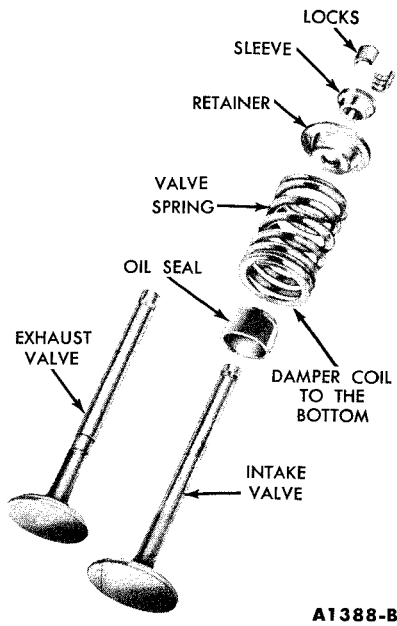

FIG. 47—Valve Assembly
2. Install each valve (Fig. 47) in the valve guide from which it was removed or to which it was fitted. Install a new stem seal on the valve.